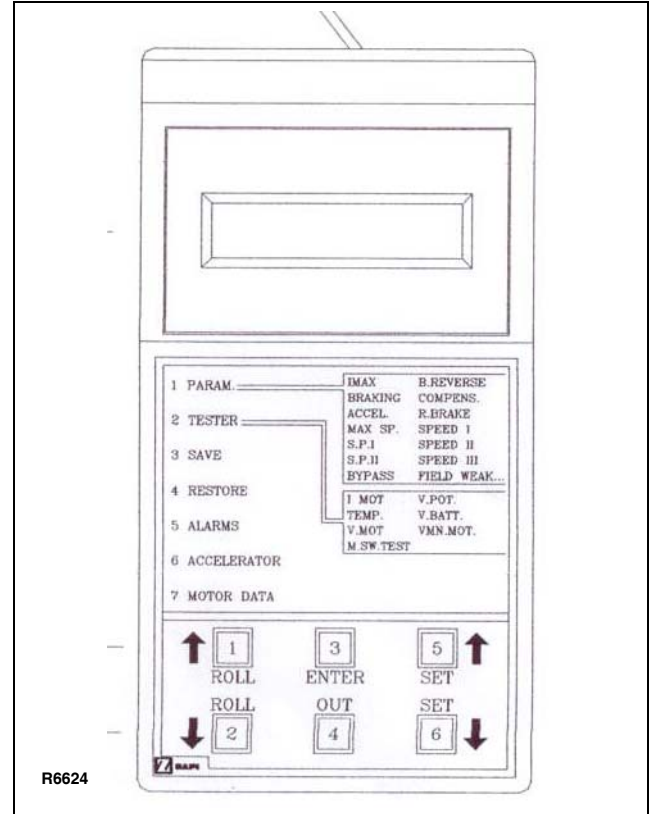

Figure 4-2. Zapi Handset
2. Press the ROLL down button (1, Figure 4-2) and the ENTER button (3) at the same time to enter the MAIN MENU.
3. Press the ROLL down button (2) or the ROLL up button (1) to find the ALARMS display.
4. Press the ENTER button (3) to view the alarms.
5. Press the OUT button (6) to exit the alarms.
3. Press the ROLL down button (2) or the ROLL up button (1) to find the TESTER display.
4. Press the ENTER button (3) to view the tests.
6. Press the OUT button (6) to exit the tests.
2. Press the ROLL up button (1, Figure 4-2) and the SET up button (5) at the same time to enter the CONFIG MENU.
3. Press the ROLL down button (1) or the ROLL up button (2) to find the SET OPTIONS display.
4. Press the ENTER button (3) to view the options.
5. Press the ROLL down (2) or the ROLL up button (1) to find the option to be changed.
6. Press the SET up button (5) or the SET down button (6) until the desired value setting is reached. The option is now set at the desired value.
7. Press the OUT button (4) to exit the options.